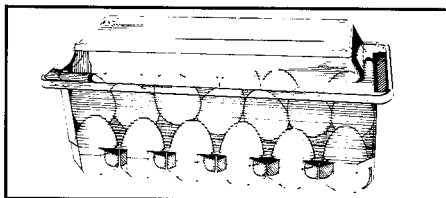

FIGURE 20
**Egg Storage.** A removable take-counter egg bucket stores eggs in a see-thru covered container. See Figure 20. To clean, hand wash in warm, soapy water.